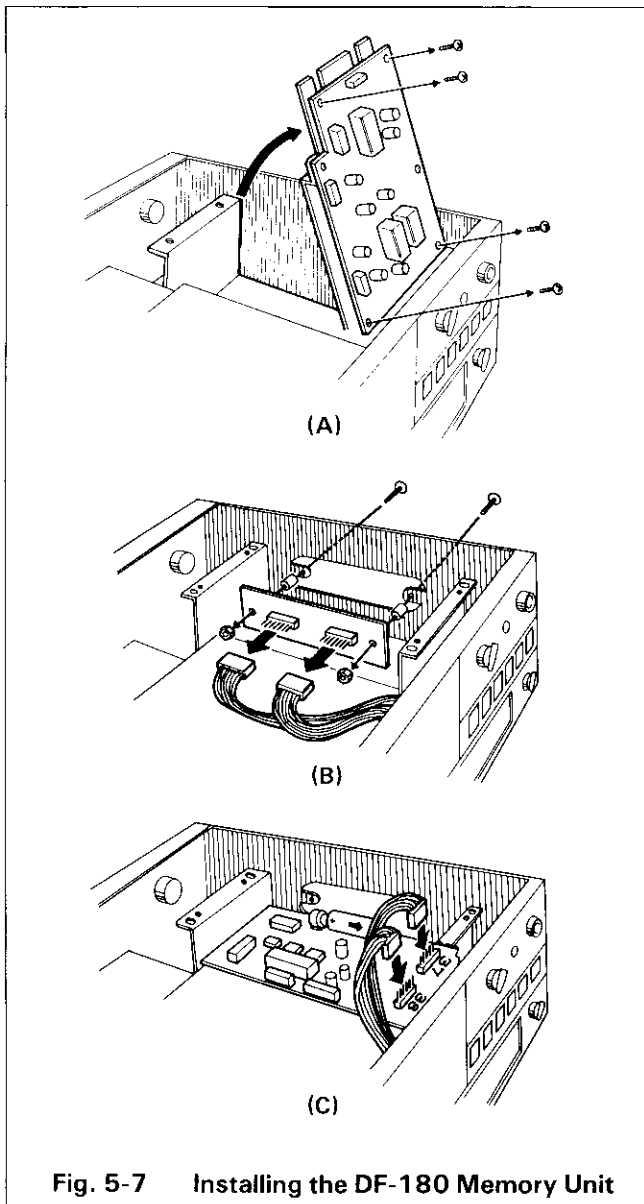

Fig. 5-7 Installing the DF-180 Memory Unit
4. Swing the IF unit upright as shown in Fig. 5-7 (A).
- \* Tilt the IF unit upright as shown in Fig. 5-7 (A).
- \* Remove the dummy printed-circuit board shown in Fig. 5-7 (B) by removing two screws and two nuts and remove the two connectors attached to the dummy printed-circuit board.
- \* Connect the DF-180 to the TS-180S as shown in Fig. 5-7 (C)